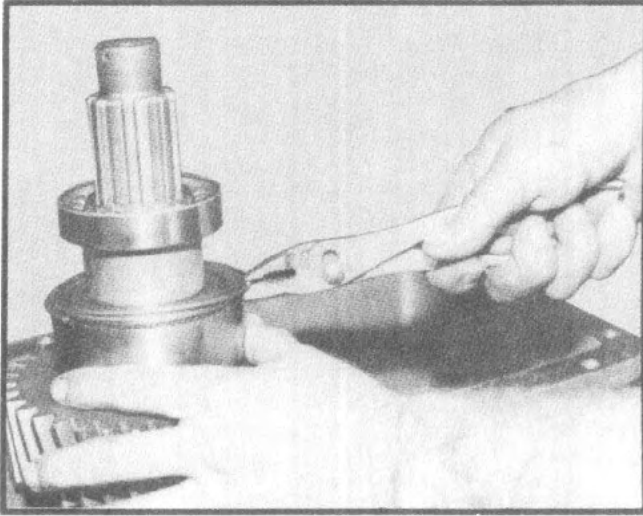
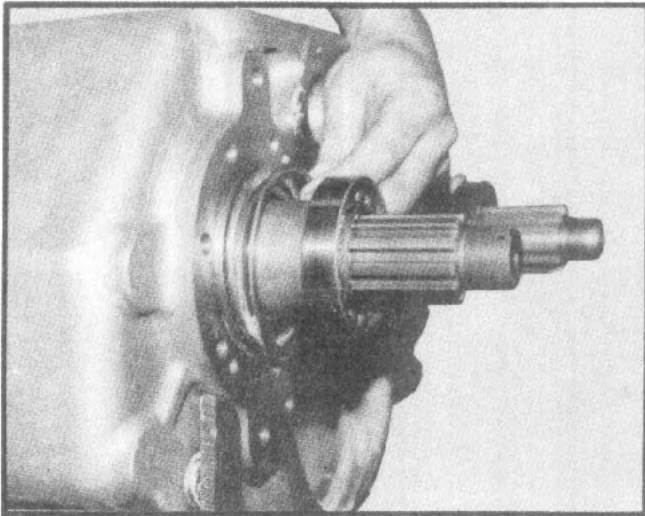

Fig. 11
Fig. 12
5. Remove snap ring from double-row ball bearing (See fig. 11) and place stem gear assembly into lower shaft rear housing bore. Tap the stem gear assembly into the housing bore until there is enough room to replace the snap ring on the bearing. Replace snap ring on bearing (See fig. 12).